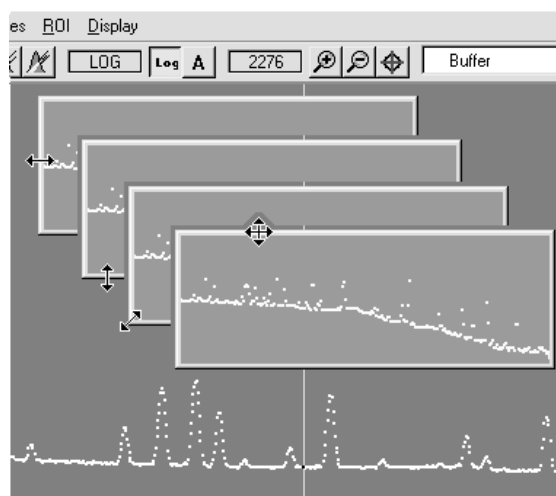

Fig. 13. Two-Sided Pointer for Sizing Full Spectrum View, and Four-Sided Pointer for Moving Window.
- **Resizing** — Roll the mouse pointer over the side edge, bottom edge, or corner of the window until the pointer changes to a double-sided arrow (see Fig. 13). Click and drag the edge of the window until it is the size you want, then release the mouse button.
- **Moving** — Roll the mouse pointer onto the top edge of the window until the pointer changes to a four-sided arrow (see Fig. 13). Click and drag the window to its new location, and release the mouse button.